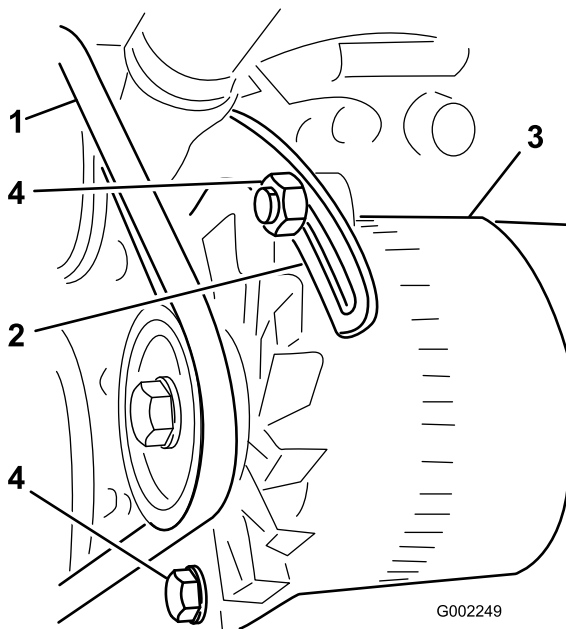

Figure 107
3. Loosen the bolt at the pivot point of the alternator; loosen the bolt that secures the alternator to the slotted brace (Figure 107).